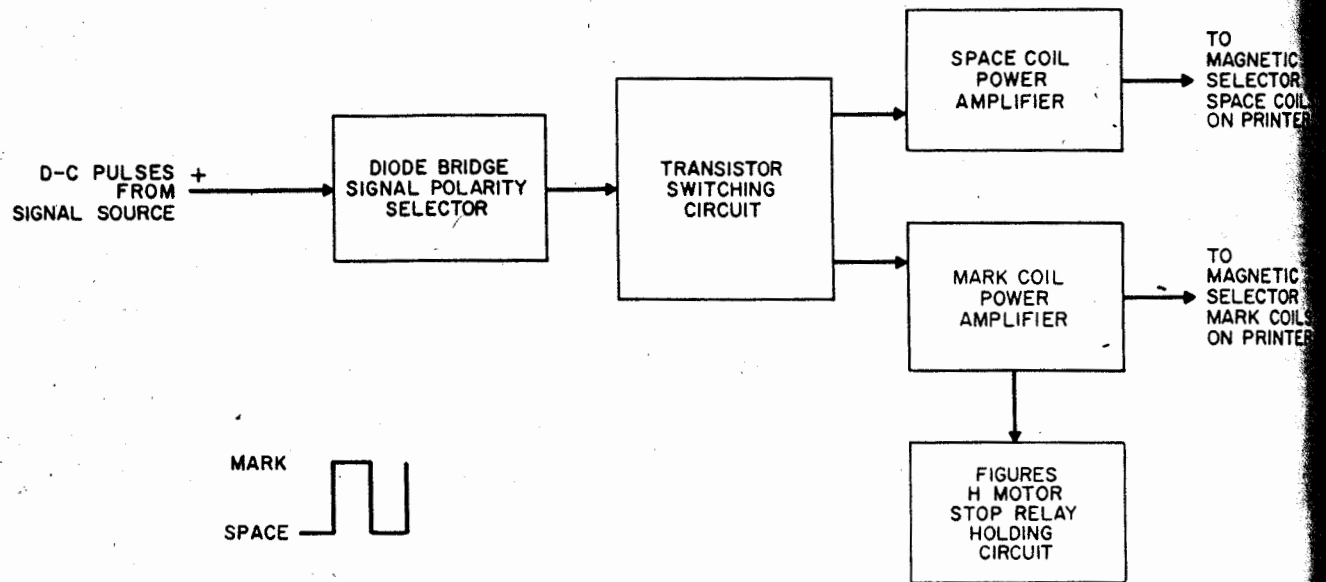

Figure 4-9. Line Sensor 1A3 and 1A6, Functional Block Diagram
(1) BLOCK DIAGRAM DISCUSSION. (See figure 4-9.) — The line sensor consists of a semiconductor diode bridge to orient the polarity of the signal to a transistor functioning as a switch, a space coil power amplifier transistor to energize the space solenoid coils on the magnetic selector, and a mark coil power amplifier transistor to energize the mark